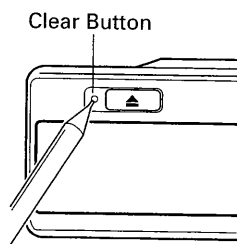

Fig. 20
• Clear button is located inside the door. (Fig. 20)